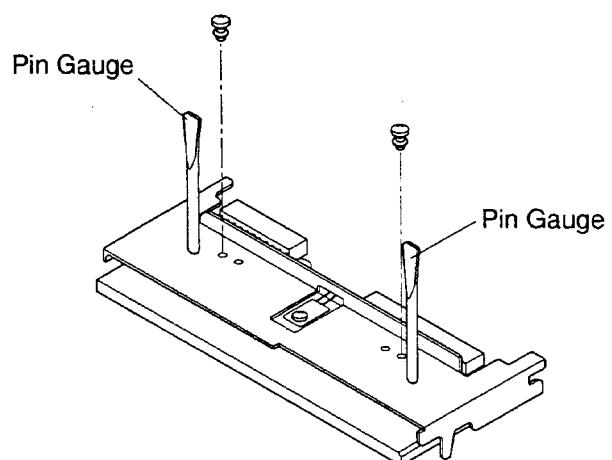

Fig. 16
* Before securing a new Thermal Head and Head Holder with screws, confirm that the holes match with a pin gauge ($\phi 3$) shown in Fig. 16.